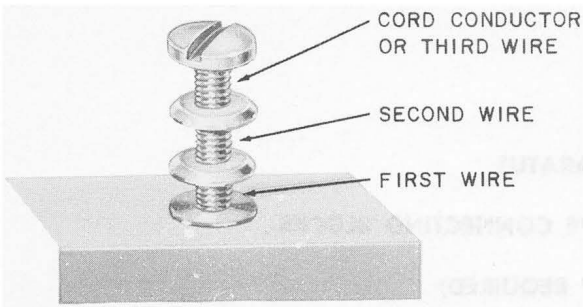

Fig. 5—Connecting Blocks, Terminations
3.02 Termination of cables, wires, and cords is shown in Figure 5 and Tables C, D, and E.